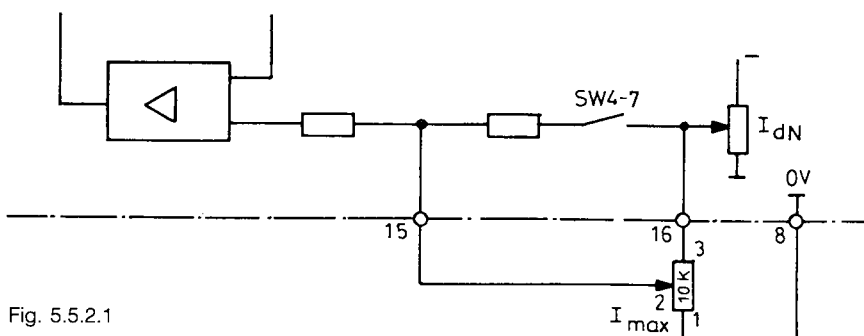

Fig. 5.5.2.1
- Connect circuit as in Fig. 5.5.2.1